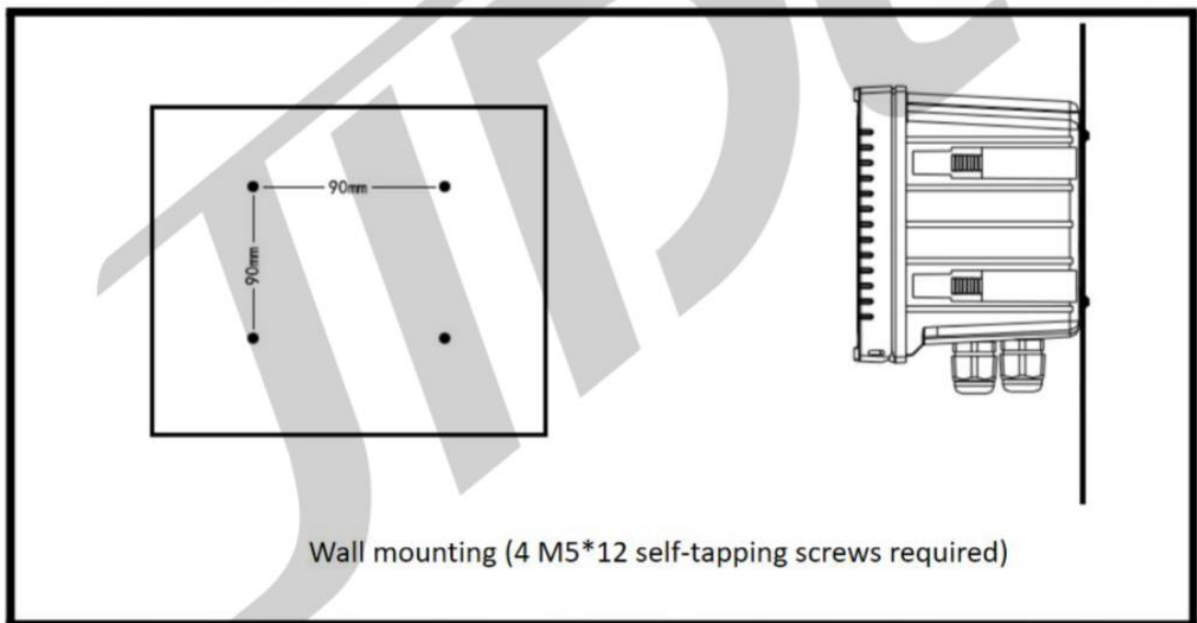

Figure 2-3 - Wall Mounting of the Controller
2.4.1 Wall mounting The wall mounting of the controller is shown in Figure 2-3 .